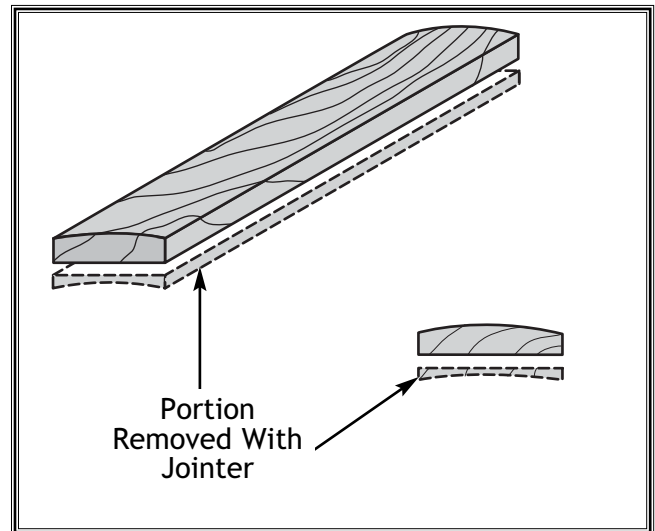

Figure 30. Face joint the concave side of cupped stock before planing.
3. Carefully inspect the wood you will feed into the planer. Each board must have at least one flat surface to slide along the planer table. To create a flat surface, pass the wood over a jointer first. See Figure 30. Some defects such as moderate twisting, loose knots or severe cracks may make the stock unplanable.